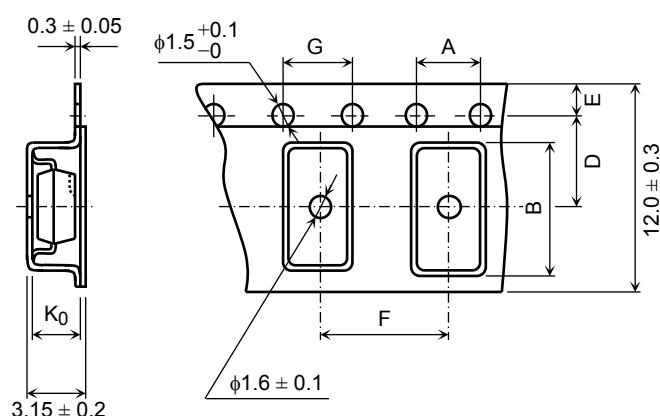

Figure 2 Tape Forms
- (1) Tape material: Plastic (protection against electrostatics)
- (2) Dimensions: The tape dimensions are as shown in Figure 2 and Table 3.